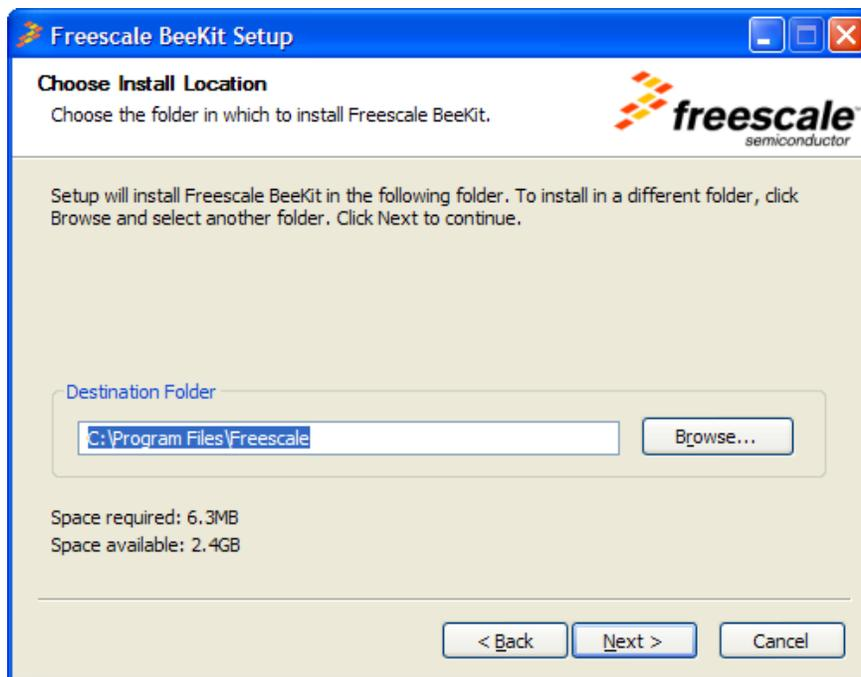

Figure 1-4. Default Folder Location
6. As shown in Figure 1-4, the C:\Program Files\Freescale\ program folder is the default installation folder for software in the BeeKit package. Test Tool 12 will install at the default location C:\Program Files\Freescale\Test Tool 12. Users may choose another folder, but Freescale recommends using the default location by clicking the Next button.